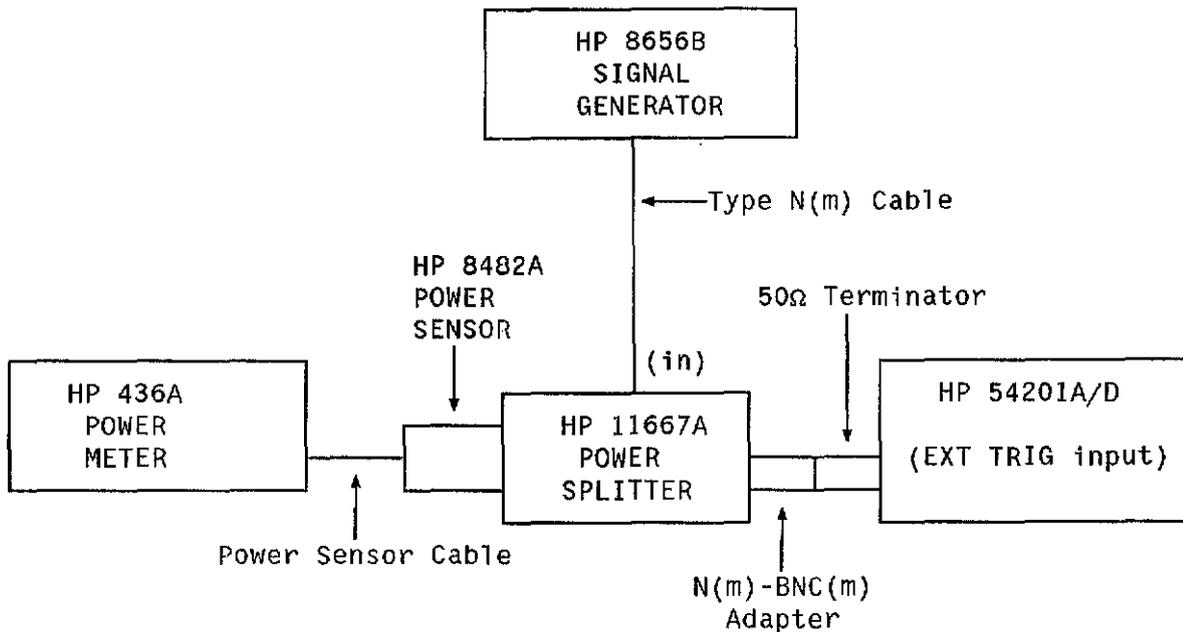

Figure 3-15. External Trigger Sensitivity Test Connections.
11. Connect test equipment as shown in figure 3-15, except without the 50 $\Omega$  terminator.
18. Connect test equipment as shown in figure 3-15.